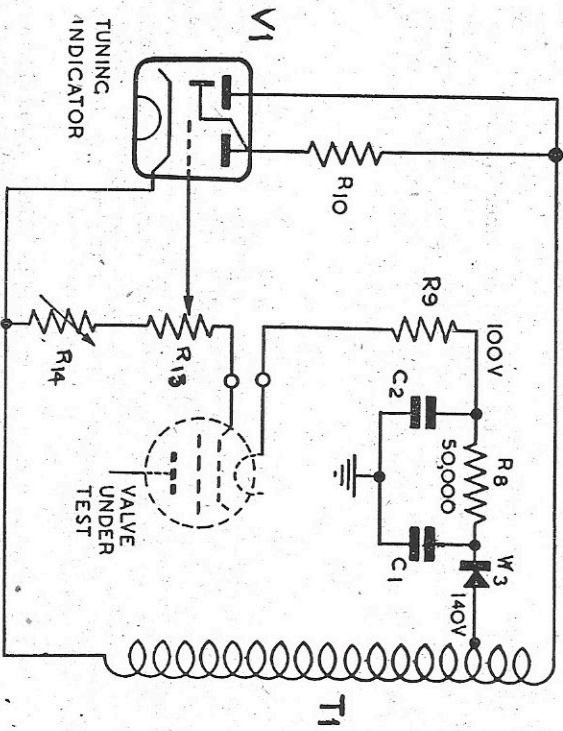

Fig. 3.—Cathode insulation test circuit
13. A simplified theoretical circuit diagram of the heater-cathode insulation test circuit is shown in fig. 3. A source of 100 volts, which is rectified by the metal rectifier W3, is applied across the heater and cathode of the valve under test, through the 0.5-megohm resistance R9.